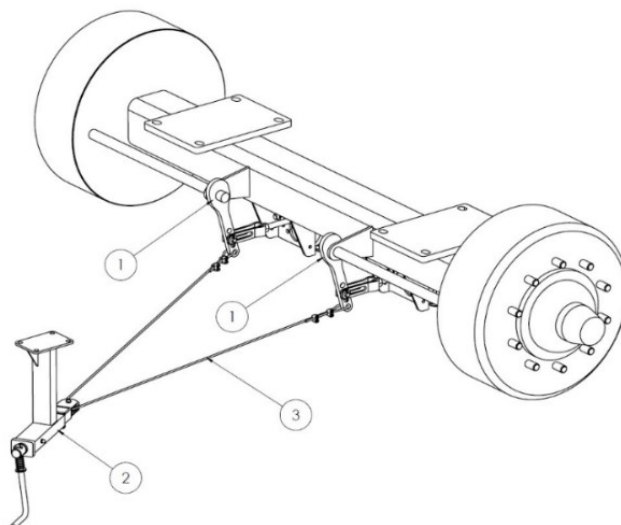

Figure 15 The parking brake
The parking brake is used to immobilise the spreader while it is parked. The components of the system are shown in Figure 15. The tension assembly (2) is mounted on the left-hand side of the structure. The expander levers (1) of the axle are connected to the crank device by means of a steel cable (3). Turning the crank of the tension assembly pulls the cable (3) and swivels the expander lever to activate the spreader brakes. The brake is released by turning the crank of the tension assembly to the left.